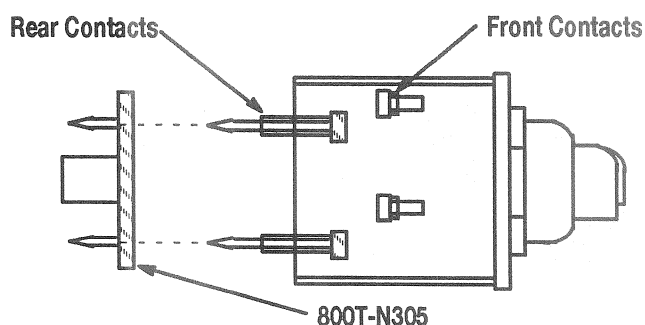

FIGURE 1
4. Devices with an 800T-XA contact block (1N.O.-1N.C.) will have the N.O. contact connected to the RediPANEL input. All dual contact blocks use the rear contacts as the RediPANEL input. See Figure 1. Front contacts are available for hardwiring.